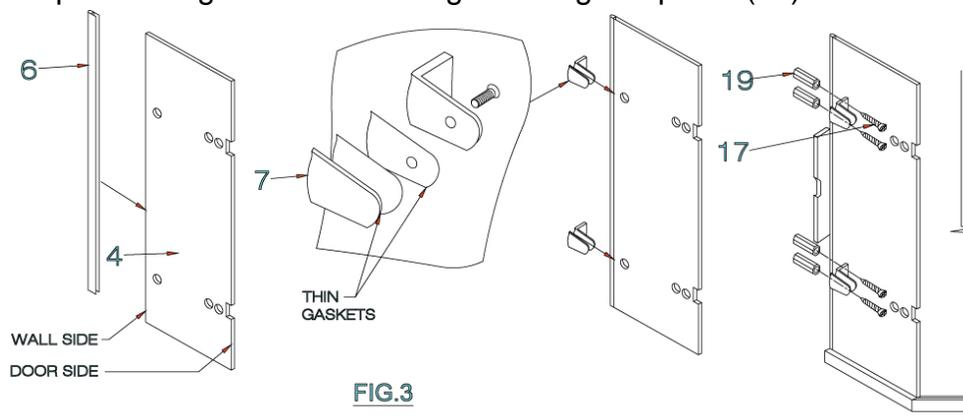

FIG.3
3. Install the side seal strip (#6) to the wall side of the hinged side glass panel (#4). [SEE FIG.3]